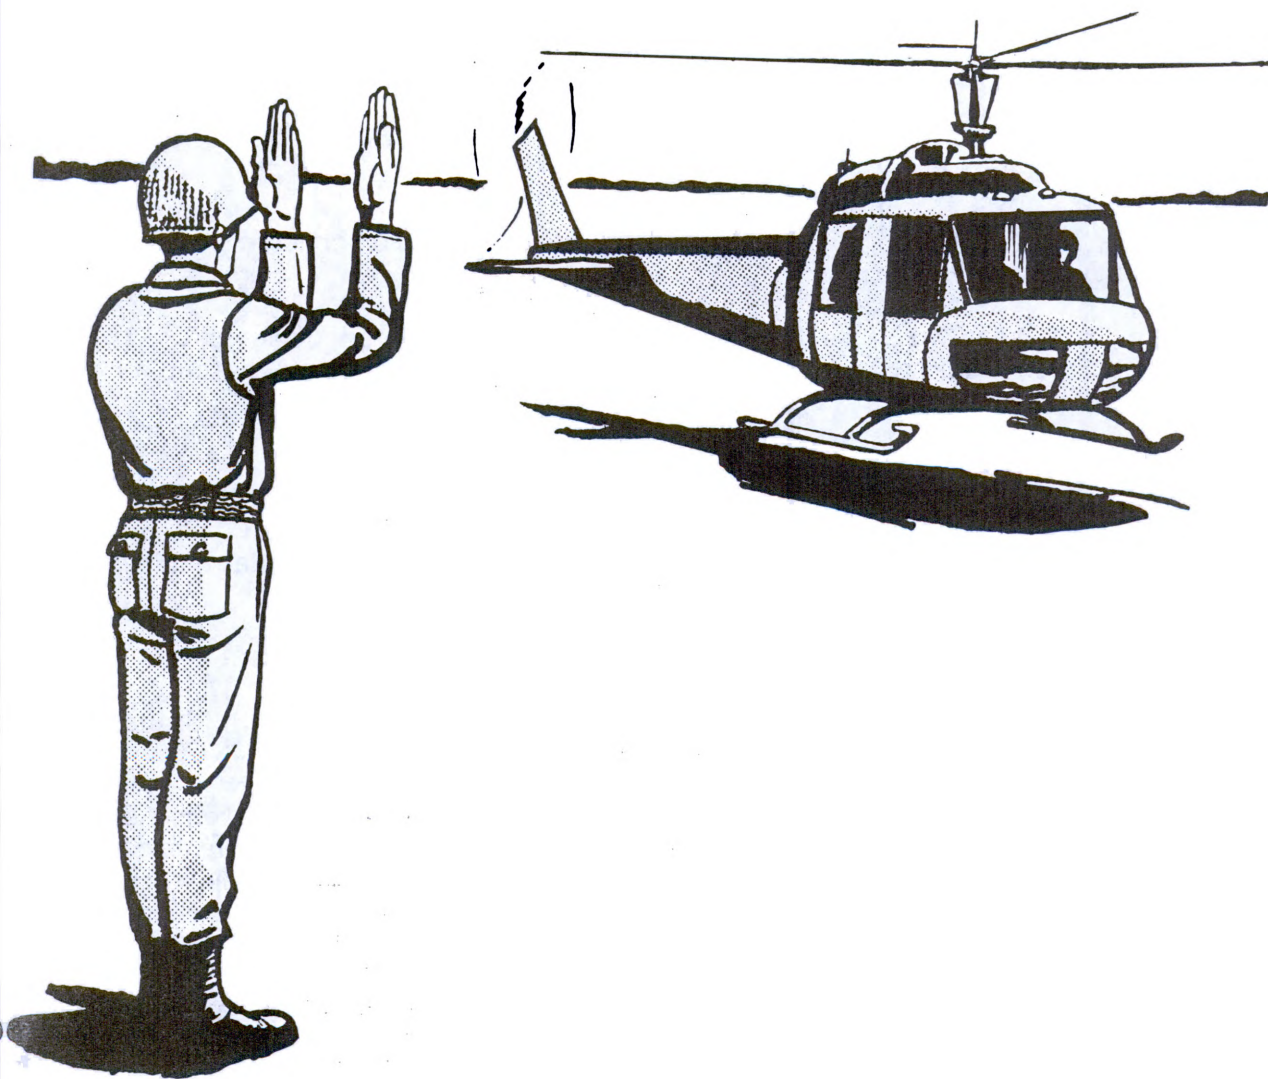

Figure 1. Standing position in directing landing of helicopter.
a. Stand to the right front of the aircraft where the pilot can see you (fig. 1).